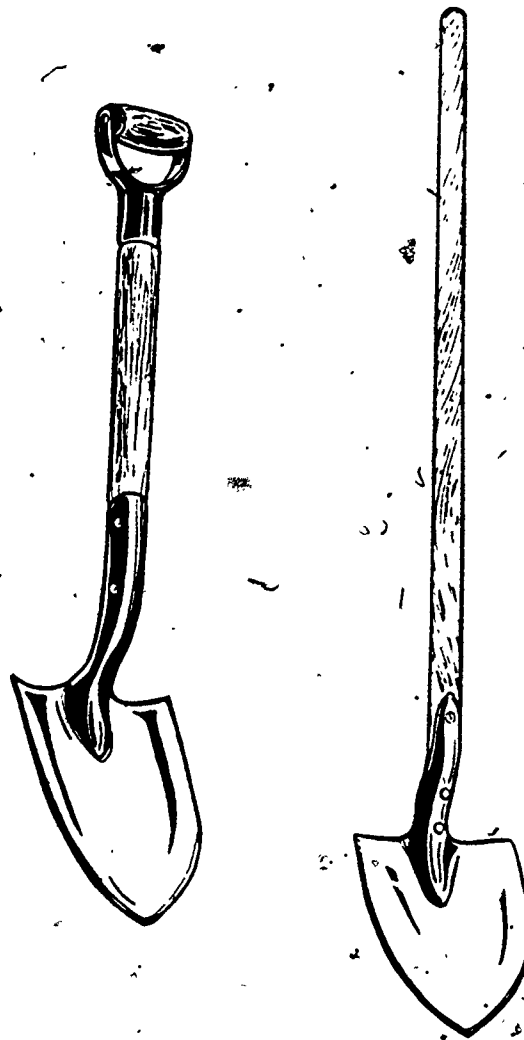

Figure 3-46. Shovels.
*Shovels.* The round-pointed shovels, shown in figure 3-46, are used to remove dirt from trenches and excavations. However, several types of shovels are available, each one having a special purpose in moving earth. For example, you may use a short-handled scoop with a square cutting edge when scooping sand or gravel. After a shovel is used, you should clean it and cover the metal parts with a thin film of oil to keep the surfaces from rusting.